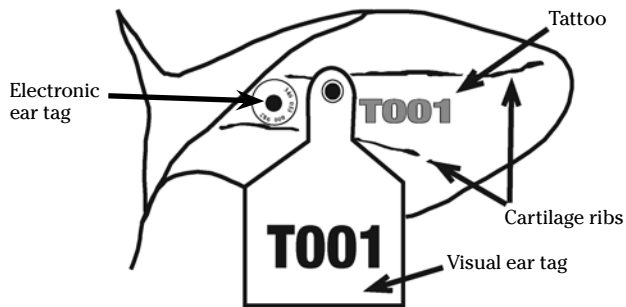

Figure 1. Correct placement of tattoos and ear tags to maximize readability
- Apply the tag in the middle rib of the ear, at least half way between the tip of the ear and the base of the ear (Figure 1).
- Rub tattoo ink into the animal's ear in the middle rib. Note the location of the tattoo in figure 1. Ensure the tattoo will not be placed into the hair of the outer ear. Use green ink for black hided cattle; use black or green ink for all other cattle.